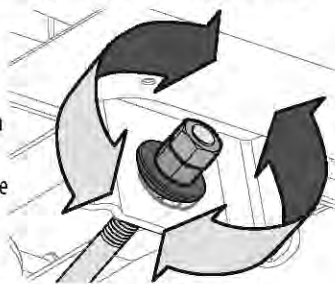

Figure 39
4. To *raise* the front of the deck, loosen the outer nut then tighten (thread inward) the inner nut against the front hanger bracket. See Figure 39. When proper adjustment is achieved, re-tighten the outer nut to 25-30 ft.-lbs (34-40.7 N-m).
5. To *lower* the front of the deck, loosen the outer nut then loosen (thread outward) the inner nut, away from the front hanger bracket. See Figure 39. When proper adjustment is achieved, re-tighten the outer nut.